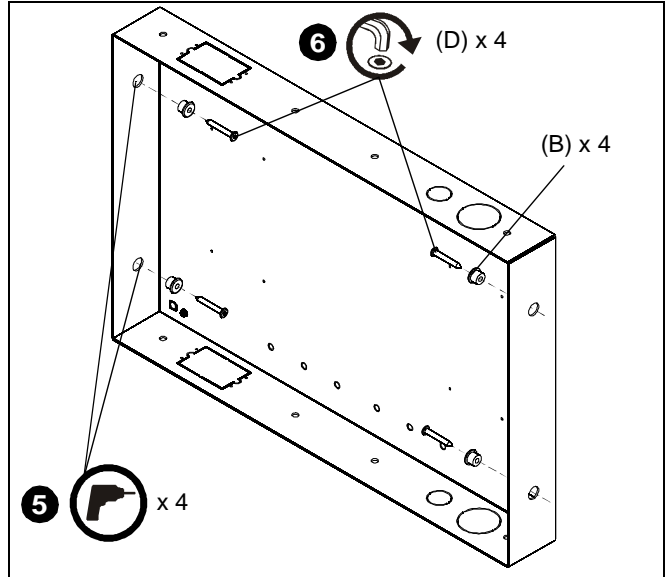

Figure 4
5. Drill four 3/16" diameter pilot holes in studs at side mounting holes. (See Figure 4)
6. Attach the PAC-501 (A) to side studs using four M7 x 50mm Allen head connector screws (D) and mounting spacers (B) using an M4 Allen head drill bit (E). (See Figure 4)